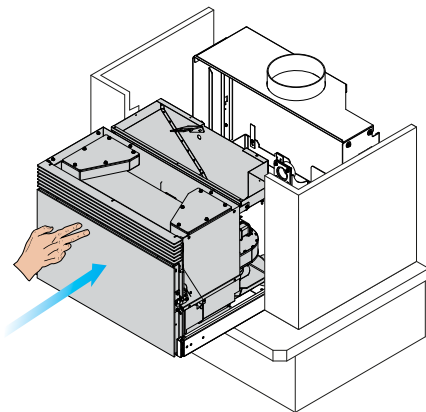

fig. 6.1.12
- 12) Push the appliance in until the very end of the rails (fig. 6.1.12)